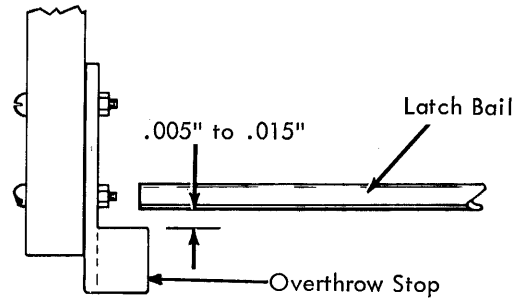

FIGURE 16. Latch Bail Overthrow Stop
- 14. Latch Bail Stop - The latch bail stop, located just beneath the bail, prevents the bail from getting beneath the selector latches during shipment. Adjust the stop to clear the latch bail by .005" to .015" when the bail is at the high point of the cycle shaft cams (Fig. 16).